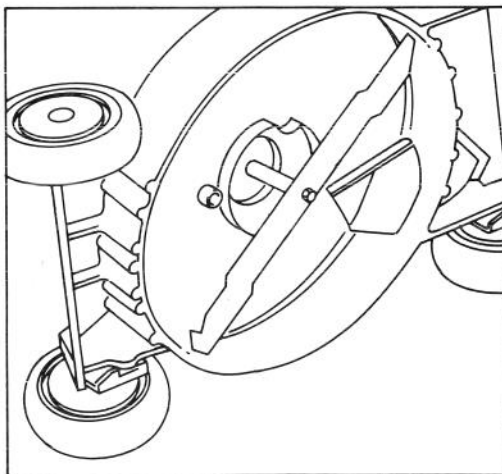

Figure 19
2. Tip mower on its right side (Fig. 19). Avoid rotating blade because starting problems may result.